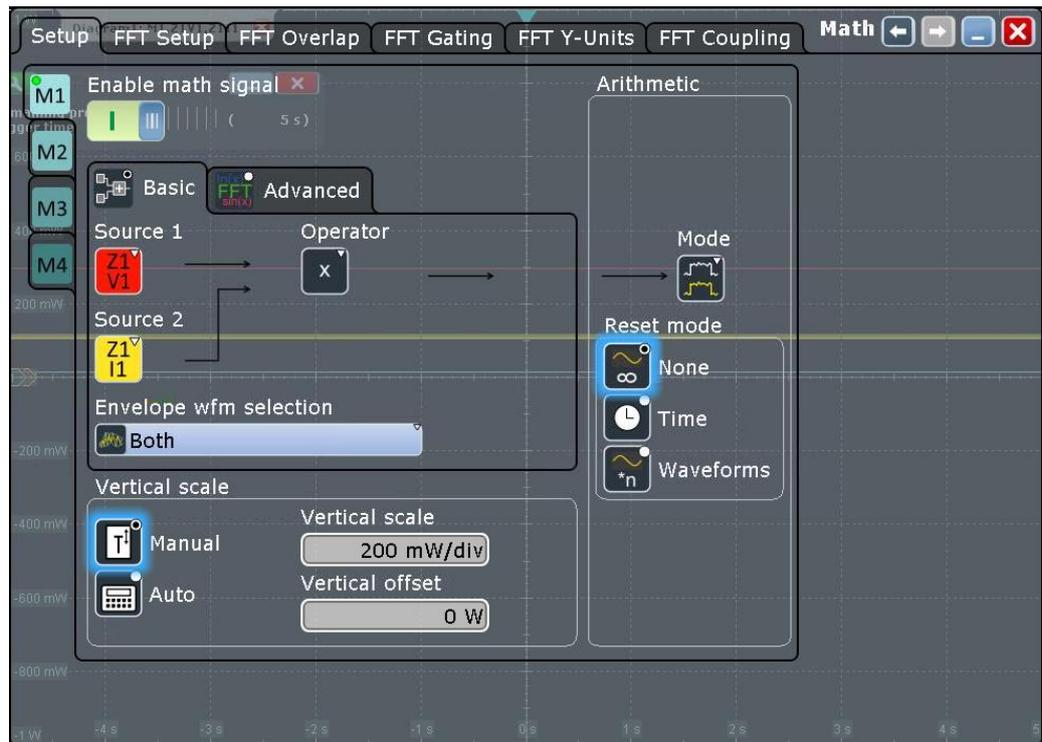

Figure 4-5: Math function configuration for power measurement on the RTO
- Configure the two sources and operator as shown in Figure 4-5.